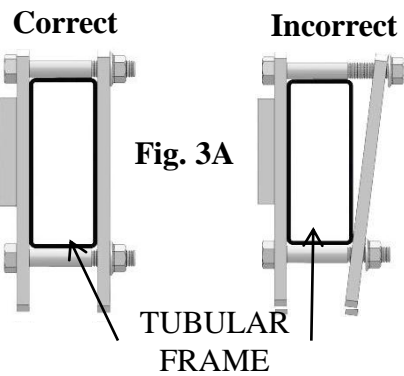

Fig. 3A
- Torque flange nuts (P) to 75 ft.*lbs. Tighten them evenly. Do not tighten one all the way before tightening the other. Tighten evenly. See fig. 3A. Inner strap (N) will bend if done incorrectly.